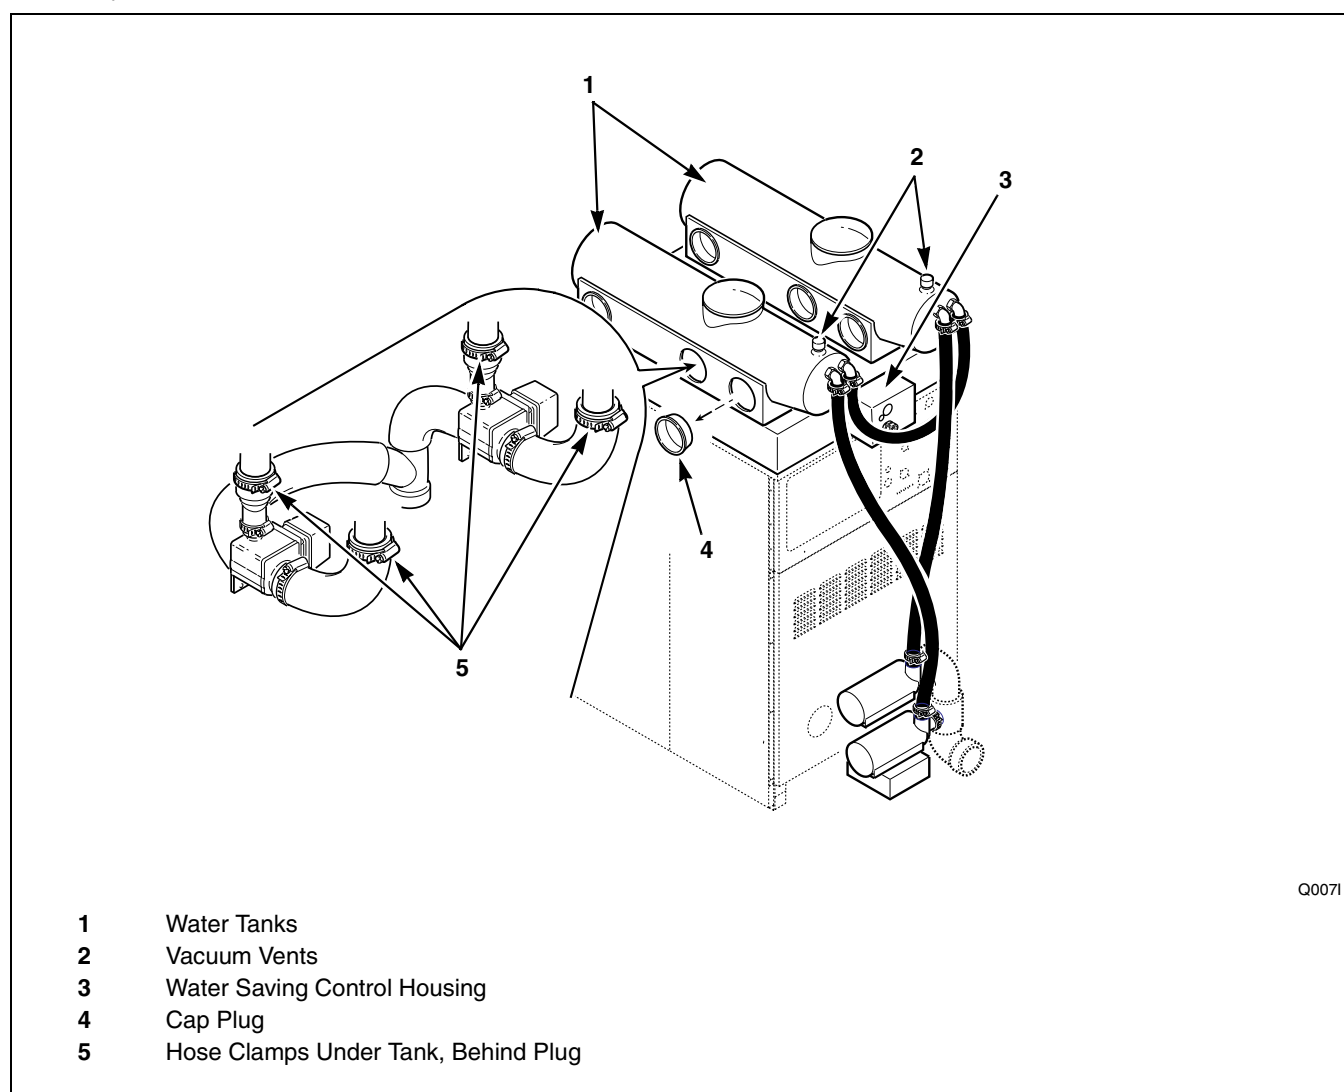

Figure 8
- b. Route the two pump motor cable connections to the WSS control housing (*Figure 8*). Slide cable connectors in and twist to lock. Pump cables and receptacles are marked "PA" and "PB". Refer to *Figure 7*.
- a. Remove the three cap plugs located near the rear and one located near the front on each side of the tanks. Refer to *Figure 8*.
- b. Loosen the two hose clamps attached at the bottom rear of each tank. Refer to *Figure 8*.